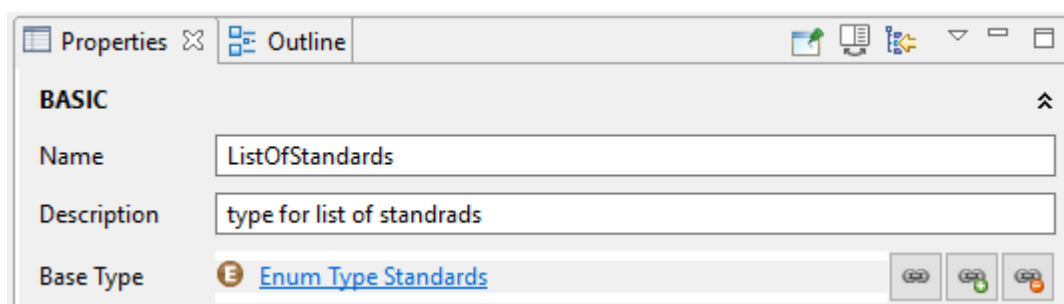

Figure 54: Property View of ListType
- 2) The ListType "ListOfStandardTypes", which contains a reference to the "BaseType" of the list ("Standards"), see Figure 54.